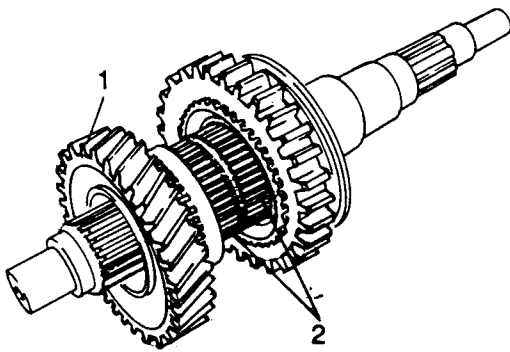

Fig H1.143
- (7) Refer to Fig H1.143. Remove 2nd speed gear (1).
- (8) Remove the two 2nd speed gear roller bearings (2).